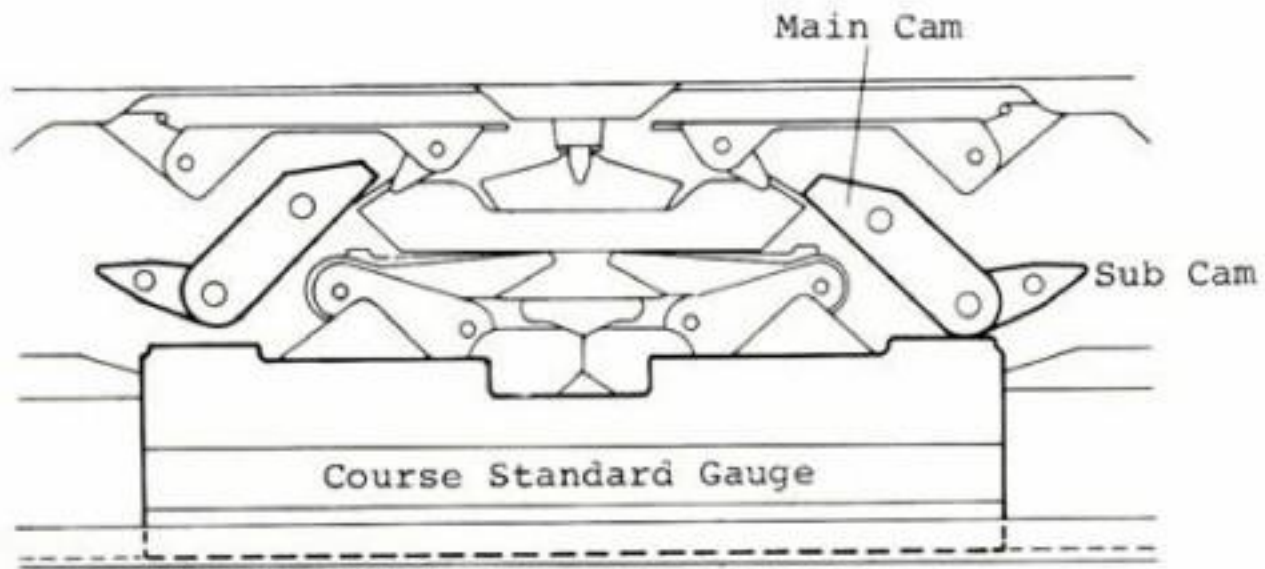

Fig. 41
1. The Course Standard Gauge is used to correct the distance. Turn the Cam Lever to the Slip Stitch position so as the Sub Cams are positioned as those shown in Fig. 41, below, and set the Stitch Dial to 1. Turn the Carriage over and insert the Course Standard Gauge into the Carriage sideways.